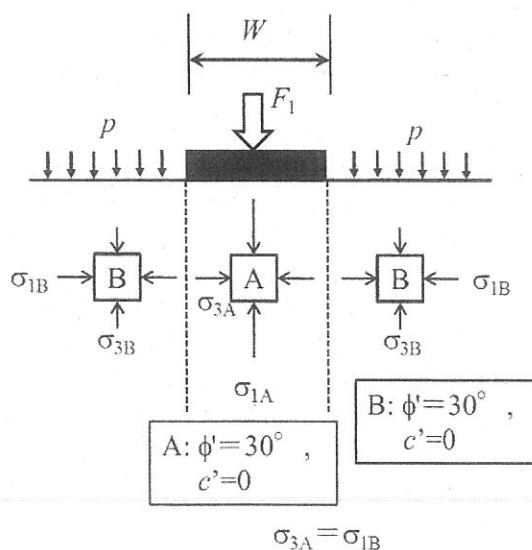

Figure 4
- (1) Answer the following questions on consolidation of ground.
- (2) Answer the following questions on vertical bearing capacity of a spread foundation having a width $W=2.0$ m that is constructed on ground with a surcharge $p=10$ kN/m². The effect of the self-weight of the subsoil material can be neglected. If needed, set $\sqrt{3} = 1.7$.
- a) Illustrate Mohr's circles of stress for the two types of stress state regions as shown in Fig. 4, where the subsoil material in these regions reaches the failure states, exhibiting an internal friction angle $\phi'=30^\circ$ without any cohesion ($c'=0$). Under these conditions, calculate the vertical bearing capacity F_1 in kN/m.